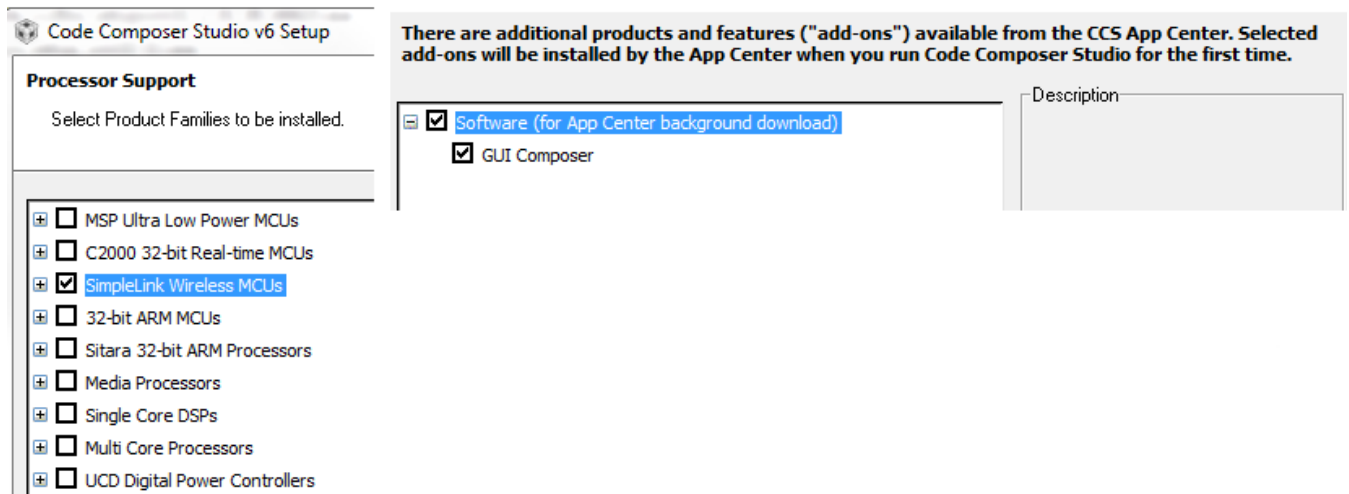

Figure 5: Selection of SimpleLink Wireless MCUs during the installation process
- Make sure to select support for *SimpleLink Wireless MCUs* during the installation process (*Figure 5*).